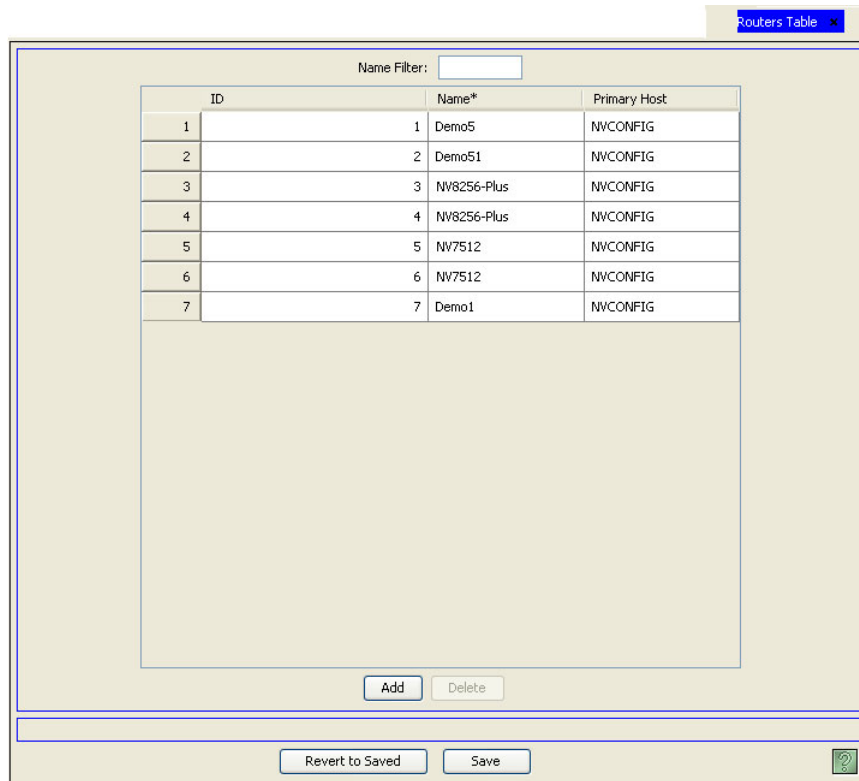

Figure 12-14. Routers Table
- 2 From the Navigation area, select the 'Views' pane and then 'Routers'. The 'Routers' table appears, as shown in Figure 12-14.